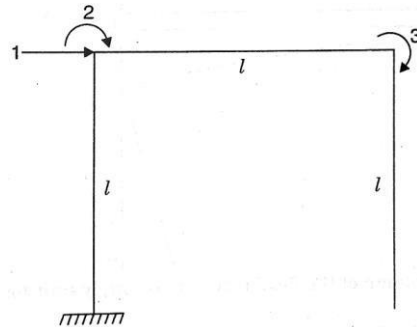

Figure 2.5
5. Develop the flexibility matrix for structure with coordinates shown in Figure 2.5 EI is constant